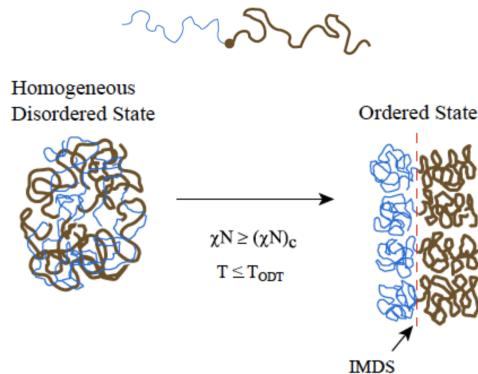

Figure 2.13: Ordering of a diblock copolymer.
- The subscript *c* in Figure 2.13 means "critical."